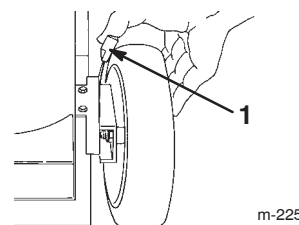

Figure 12
1. Pull the wheel height adjustment lever toward the wheel (Fig. 12) and move it to the desired setting.